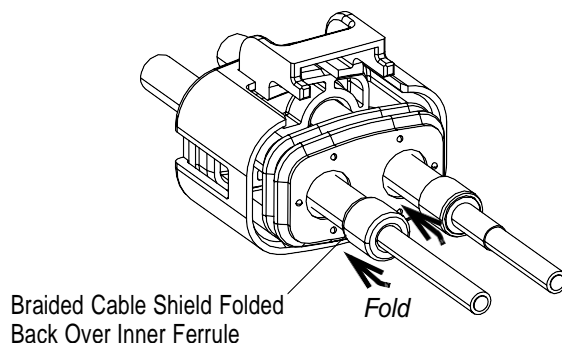

Figure 7
5. Fold the braided cable shield back over the inner ferrule, taking care to try to keep inner ferrule positioned such that its edge is flush with the stripped edge of the outer jacket as shown in Figure 7.